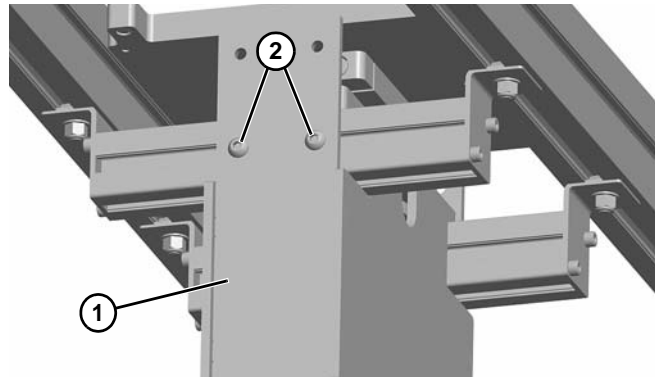

Figure 21
5. Install guard kit (**Figure 21, item 1**) with button head screws (**Figure 21, item 2**) on both sides.